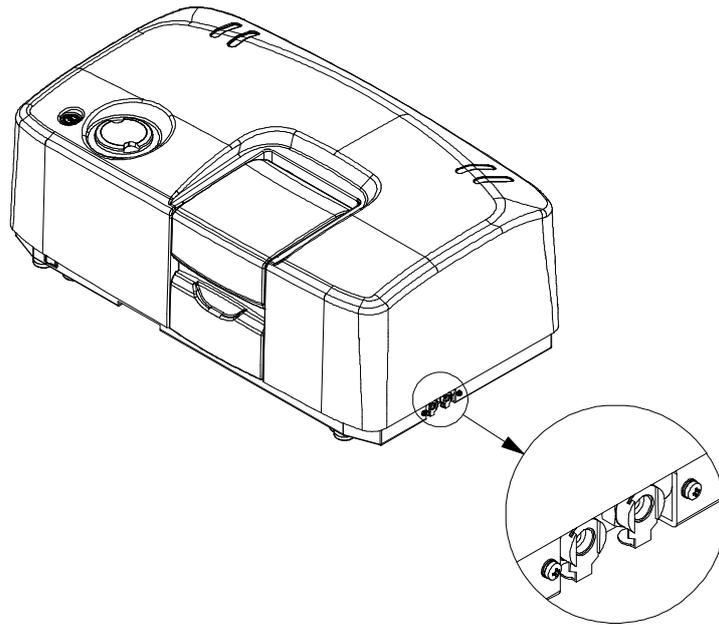

Figure 1.8 P-2000 inlet port for the constant-temperature circulation water
- (2) Connect the supplied joint to the tube from the constant-temperature circulation water and insert it into the inlet on the right side of the polarimeter (Fig. 1.8).